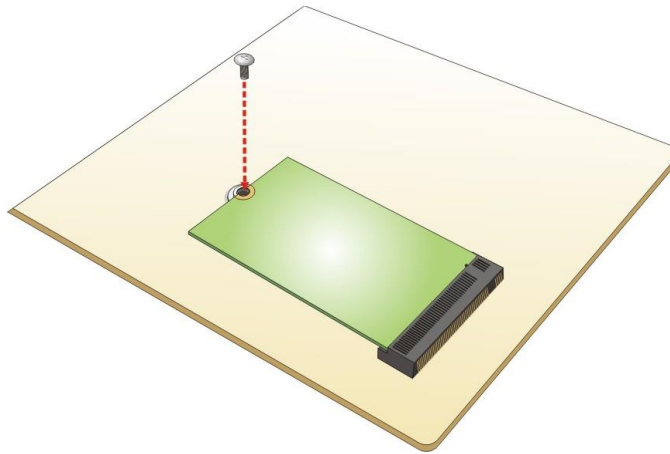

Figure 4-10: Securing the M.2 Module
**Step 4:** Secure the M.2 module with the previously removed retention screw (**Figure 4-10**).